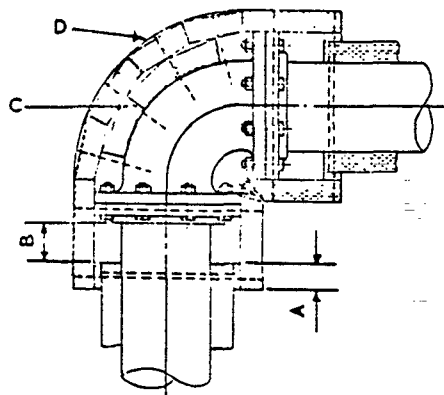

FIGURE 9
7.3 Flanged fittings and flanged valves shall be insulated with block or pipe insulation equal in thickness to the adjacent pipe insulation, in accordance with Figures 9 and 10. The fitting insulation shall overlap the adjacent pipe insulation two inches or equal the pipe insulation thickness, whichever is greater. See Figures 9 and 10.
Legend Figures 9 and 10